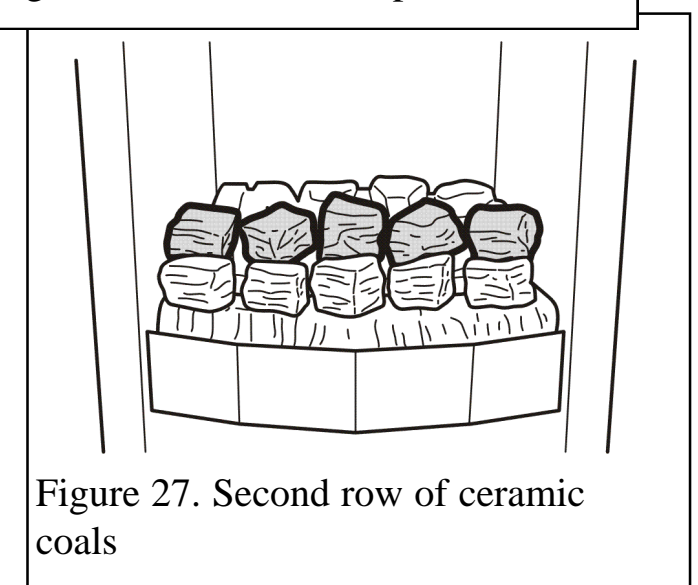

Figure 27. Second row of ceramic coals
3. Place five loose ceramic coals on top of the first row of ceramic coals. These should be evenly spaced. Rest them on the ledges above the slots in the base coal (See figure 27).